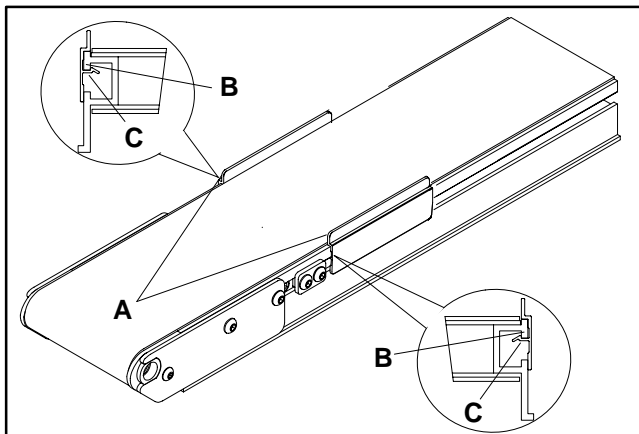

Figure 2: Conveyor Low Side Belt Tracking Guide Installation Detail
5. **All low side conveyors without optional guiding**, have factory installed belt tracking guides (A of Figure 2) installed on both ends of conveyor. Each guide is a 3.5" (89 mm) long piece of formed plastic which snaps onto the portion of the conveyor sidewall (B) above the T-slot channel.
NOTE: Use belt tracking guides (A of Figure 2) during initial conveyor start-up for tracking conveyor belt, as necessary. Guides may be left on or removed, after start-up. Be sure to save belt tracking guides for start-up after belt cleaning or replacement.
2. If not already installed, install the belt tracking guides on both ends of low side conveyors. Refer to Figure 2 on page 5.